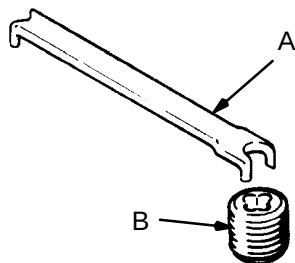

Fig 1
2. Unscrew the packing nut (B) using the wrench (A) supplied with your gun. See Fig 1.